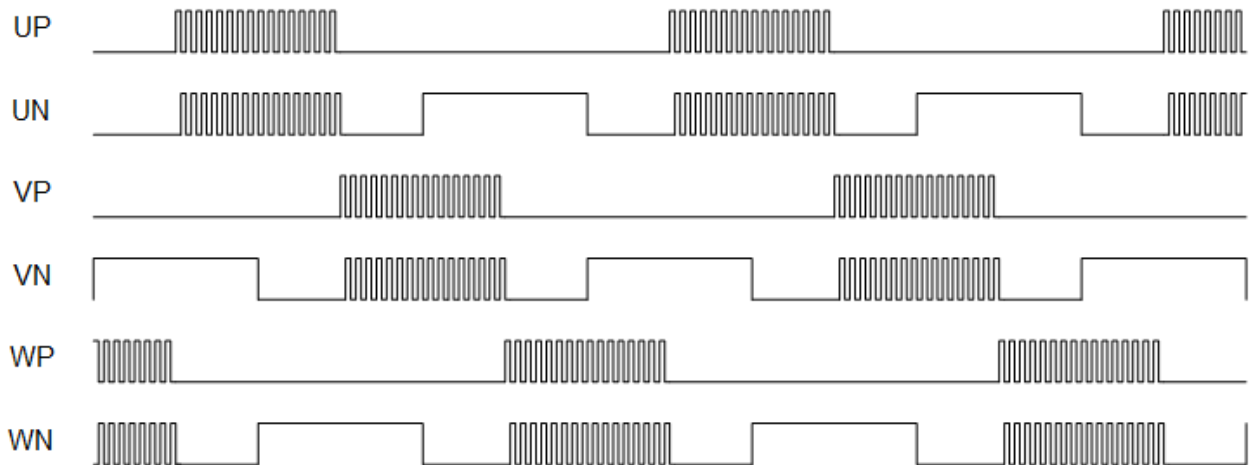

Figure 3: Modulation Diagram (active high drive)
Figure 3 shows the modulation method used in this application. In this case positive side modulated, negative side GPIO. This is compatible with the algorithm mentioned in section 8, item 2 so we will not have to re-program the inverter timer when we switch to open loop mode of spinning the motor.
Figure 3 shows the 6 STEPs of modulation, you can see the PWM modulating the positive side of the motor.